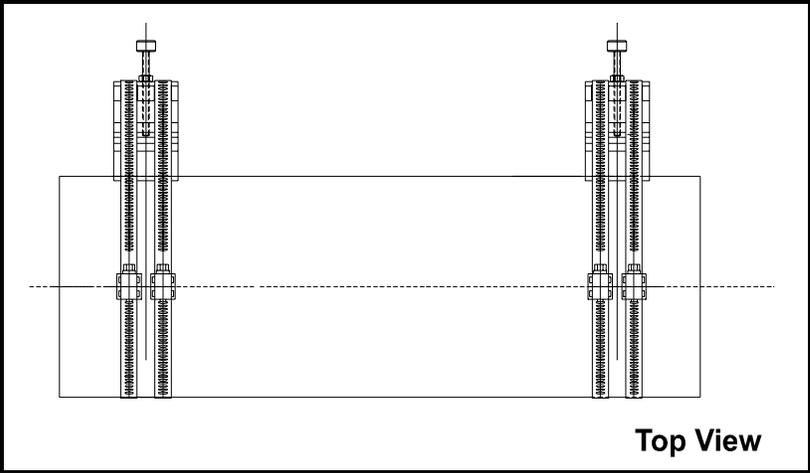

Figure 13: Positioning Both Blocks
8. Repeat Step 7 to install the other block over the other crossmark (Figure 13 below).